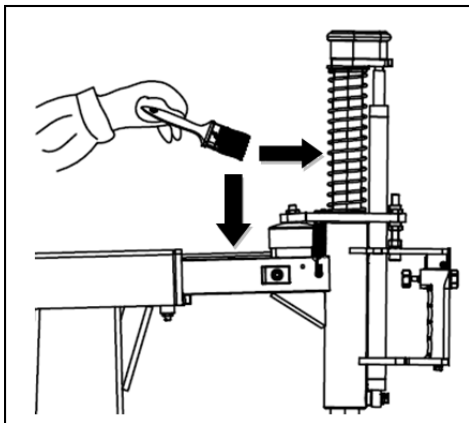

FIG23
- Use the diesel oil to wash the hexangular shaft and quadric horizontal arm (Fig23).